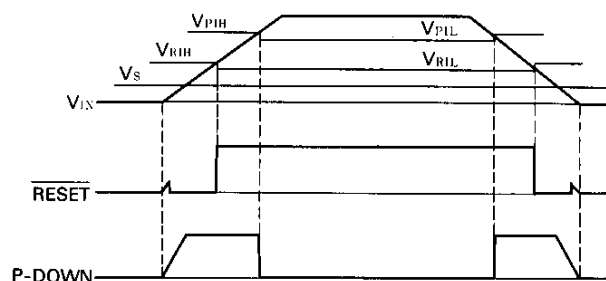

Fig. 2 Timing chart
Figure 2 shows how the P-DOWN and [RESET] outputs differ as the supply voltage V_{IN} varies. The [RESET] signal generation level V_{RIH} and [P-DOWN] signal generation level V_{PIH} after an increase in supply voltage V_{IN} can be calculated using formulas (1) and (2). Until the supply voltage V_{IN} exceeds V_{RIH} , the [RESET] signal output transistor remains ON and continues to output the reset signal. Until the supply voltage V_{IN} exceeds V_{PIH} , the [P-DOWN] signal output transistor remains OFF and continues to output the power-off signal.